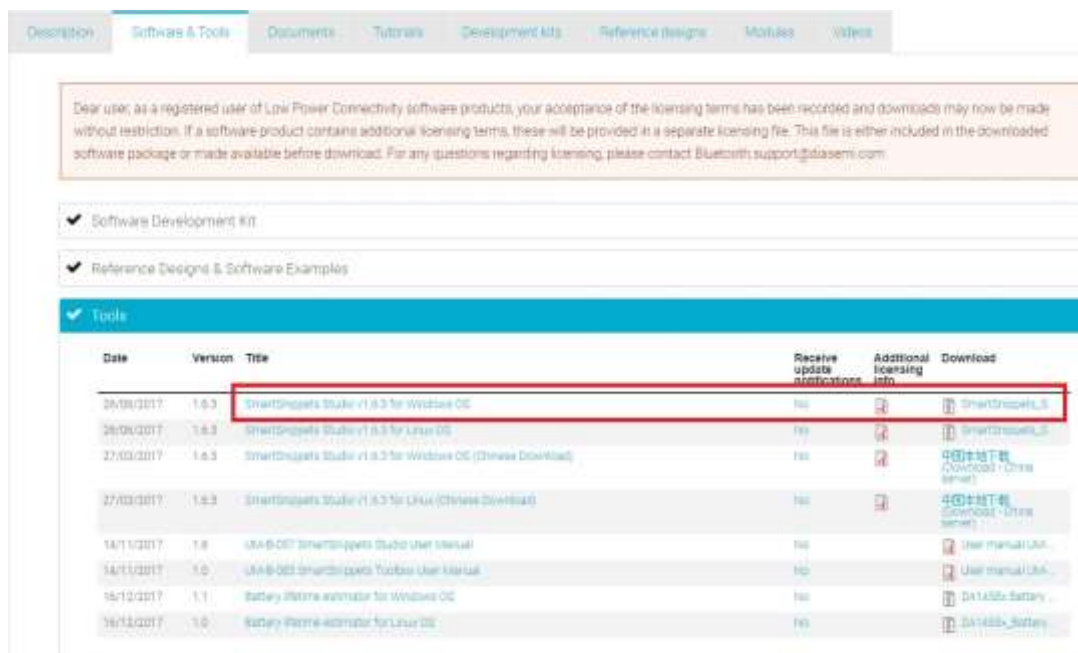

Figure 10: SmartSnippets Studio Install Link
1. Download the latest version of SmartSnippets™ Studio from Software and tools, as shown in **Figure 10**.